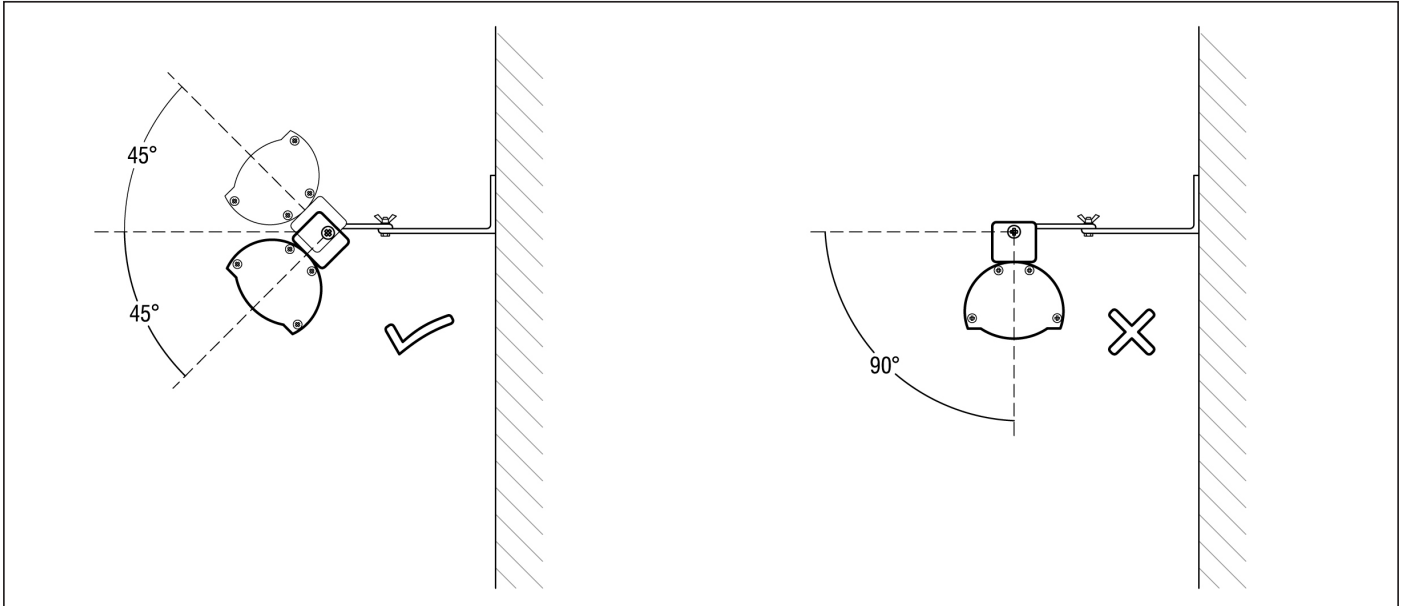

Figure 5.
- Adjust tilt angle of unit to suit the application within $\pm 45^\circ$ [refer figures 5 & 6, page 10].
8. Adjust the desired angle of the face of the heater and fasten all screws (refer figures 5 & 6, page 10). Check the screws regularly as unforeseen mechanical disturbance due to wind etc could loosen the fixing over time.